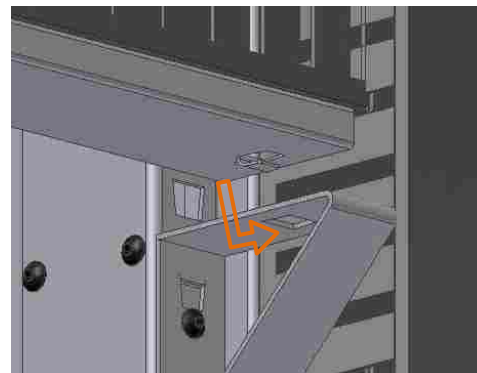

Fig 9
STEP 3 – Insert the hooks of the **horizontal ducts** in the trapezoids of the **kits** (Fig.9).